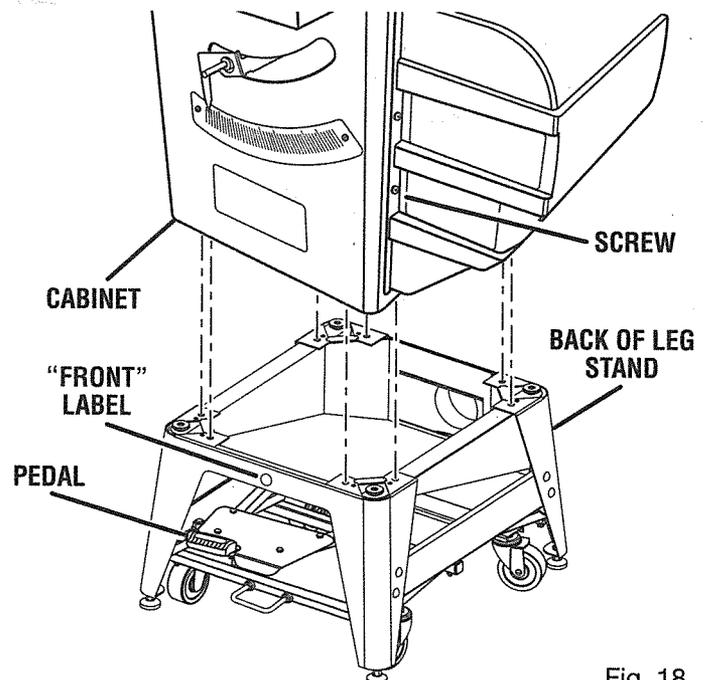

Fig. 18
See Figure 18.
- Place the dust chute inside the leg stand as shown in figure 18.